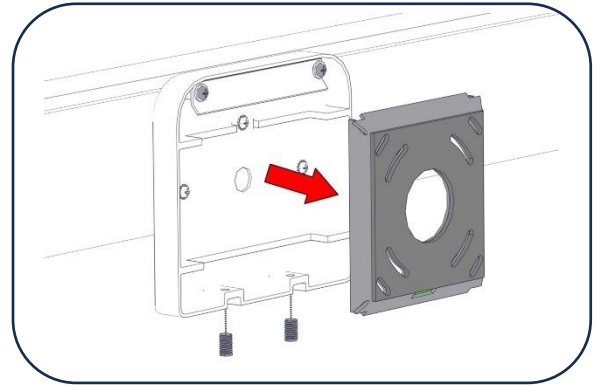

Figure 1
3. Remove the **Quick Mount Bracket(s)** by loosening the two set screws on the bottom of the Wall Mount(s). [Figure 1]
1. Remove the **End Caps** and **Bottom Diffusers** from each fixture. [Figure 1]